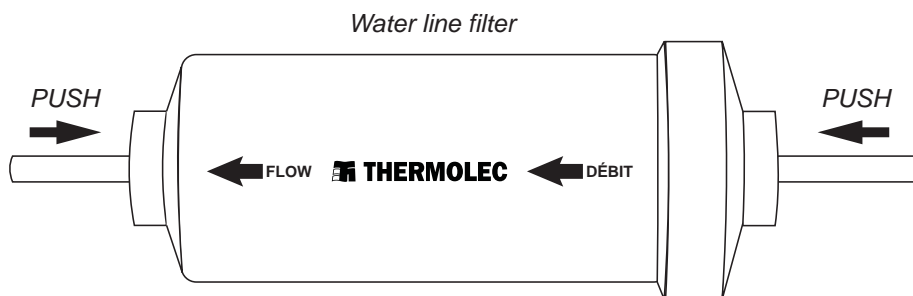

Fig. 16a
16.1 A water line filter is supplied and should be installed between the shut off valve and the water hammer absorber. It is strongly recommended to flush the supply water line for 30 seconds before connecting the filter. Simply push the tubing (plastic or copper) into the quick connect fitting until it bottoms out. Once the filter is connected it is recommended to flush the supply water through the filter for another 30 seconds. Please see Fig. 16a.